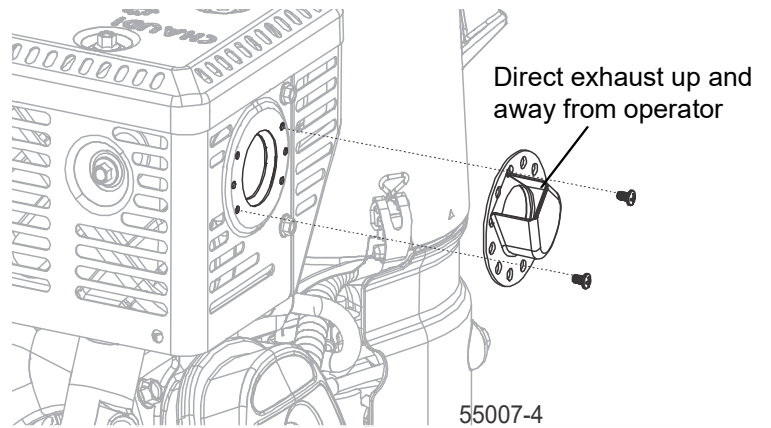

FIG. 1-18
3. Set the engine on the engine mounting platform and loosely secure with M10x50mm bolts. See Fig. 1-18.
1. Replace the existing cable bracket on the engine with the supplied cable bracket. See Fig. 1-18.